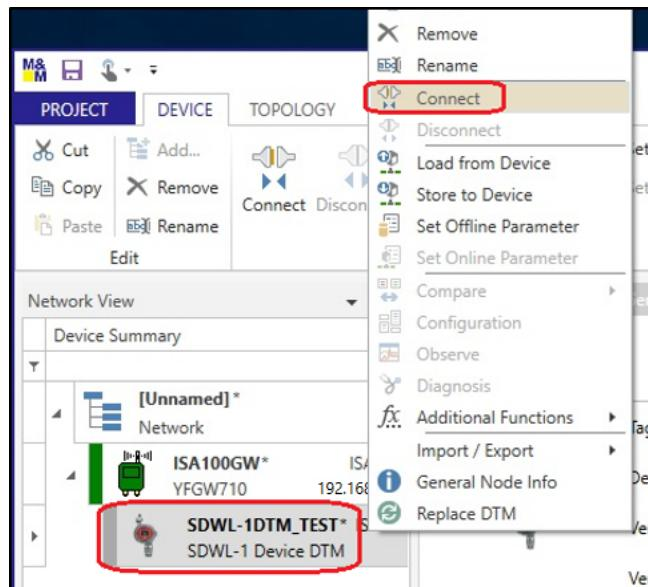

Figure 5-50 Connecting to SDWL-1
- ⑫ The SDWL-1 with the device tag edited is added to the tree menu on the left side of the main window. Right-click, then select “Connect” to connect to the SDWL-1. (Figure 5-50)